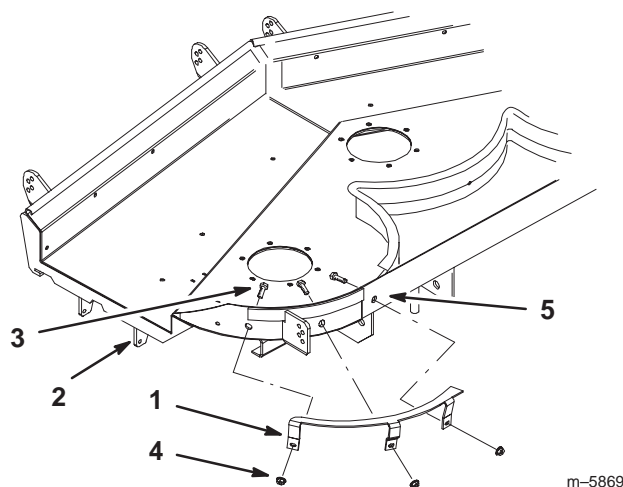

Figure 10
5. Using the baffle as a template, drill three, 9/32 in. diameter, holes into the right cutting blade chamber (Fig. 10).
6. Install the right baffle with 3 bolts (1/4 x 5/8 in.) and 3 flange nuts (1/4 in.) (Fig. 10).